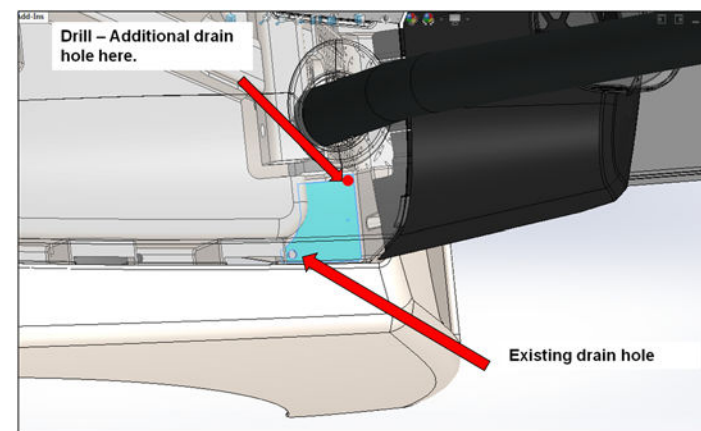

Figure 1.7: Additional drain hole (viewed from above)
- 1.7 From the front left wheel well, look up under the front fenders and locate the existing drain hole underneath the cowl. Turn the wheels to allow access and drill a 3/8" drain hole in the opposite corner of the black plastic fender. This will prevent water from running onto the operator's feet during heavy rain. (**Figure 1.7**).